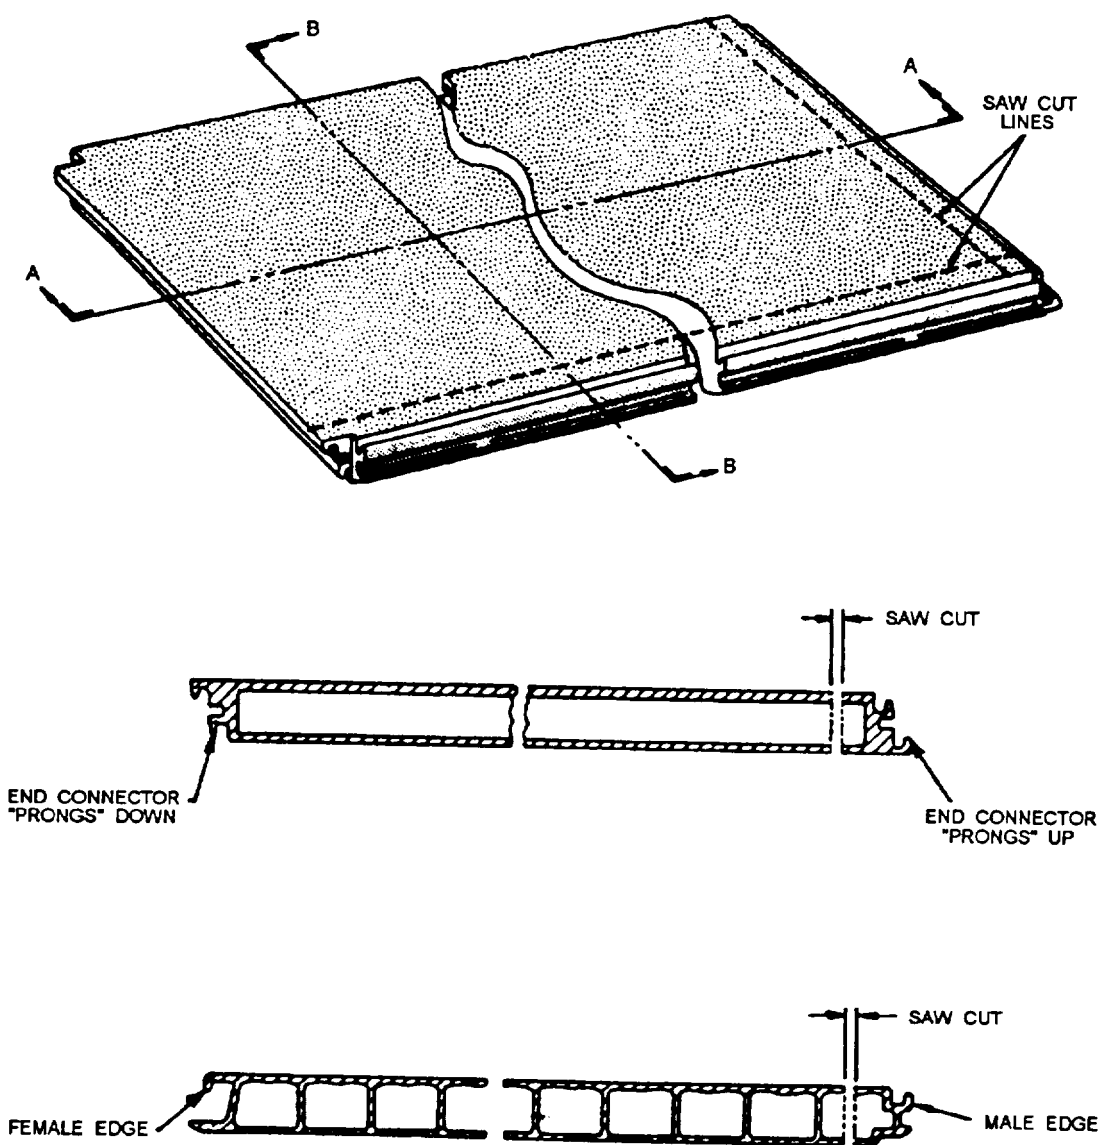

Figure 11-33.—Mat cutting for removing mat.
1. Cut out the damaged mat so complete removal can be affected without damage to surrounding mats. this can best be accomplished using a portable circular saw, set for a 2-inch depth of cut. The cut should be made along the male edge and prongs-up connector. (See fig. 11-33.)